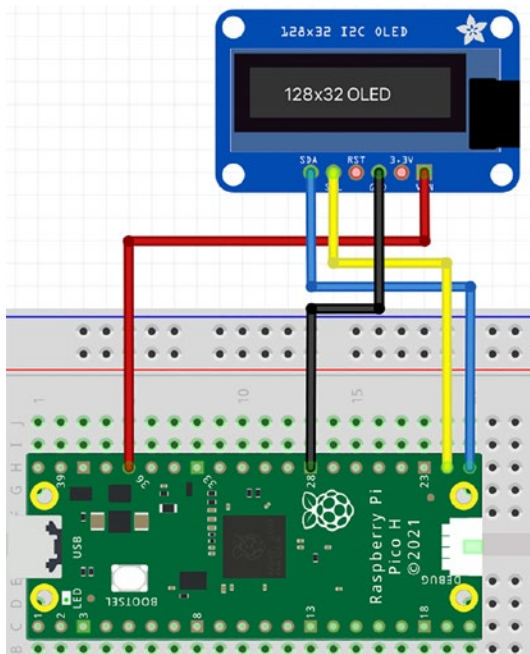

Figure 7-14. 128x32 OLED connected to I2C pins, power, and ground
Step 2: Since we missed out on some bright lights in the first step, let's set up the OLED display. To connect the display easily and not have it wobbling around everywhere, we'll use a breadboard with some jumper wires (Figure 7-14).
Note With the breadboard held sideways as shown in Figure 7-14, the holes are connected vertically. They do not connect across the middle gap which is why the vertically aligned Pico GPIO pins are not shorting together. The two rows at the top of the breadboard are power rails that are connected horizontally, so you can connect ground (GND) and 3.3V to the + and – rails, respectively, to make power connections simpler and cleaner for your prototype circuit.